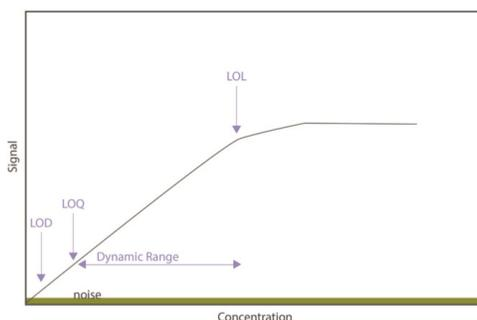

Figure 2. Calibration Curve Limits and Range
- **Limits of linearity (LOL)**: upper limits of a system or calibration curve where the linearity of the calibration curve starts to be skewed creating a loss of linearity (Figure 2). This loss of linearity can be a sign that the instrumental detection source is approaching saturation.